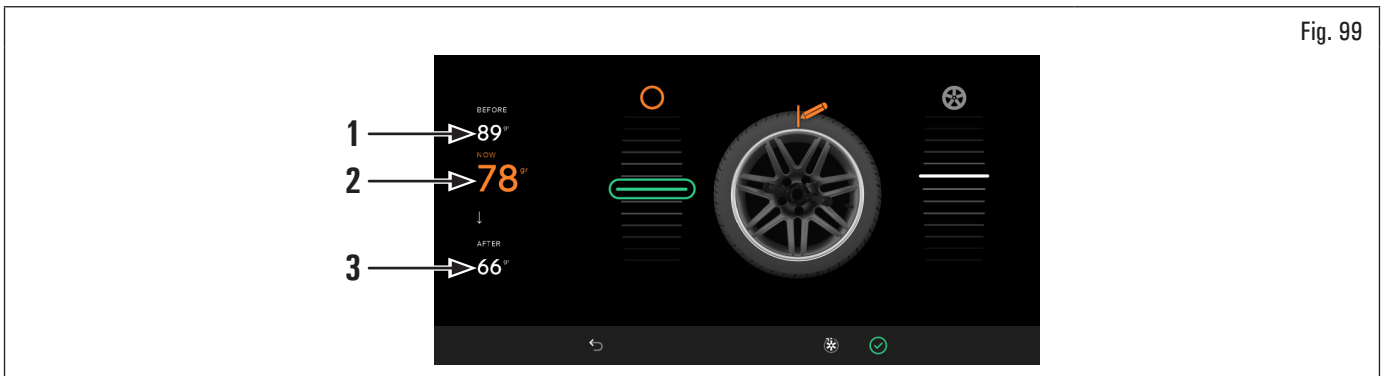

Fig. 99
In this screen you will see the static unbalance that the wheel had before performing the operation (Fig. 99 ref. 1), the static unbalance after having rotated the tyre through 180° compared to the rim (Fig. 99 ref. 2) and the unbalance which can be obtained following the directions of the equipment (Fig. 99 ref. 3).